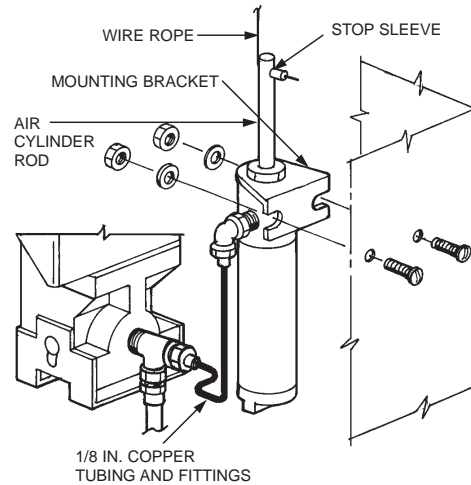

FIGURE 34
4. Locate air cylinder and bracket assembly over the two 7/32 in. (5.6 mm) holes on right side of the enclosure. Assemble with screws, lockwashers, and nuts. Wrench tighten. See Figure 34. Air cylinder(s) can also be mounted in the inverted position, allowing for direct exit out the knockout(s) in the bottom of the enclosure. See Figure 35.
6. Install the necessary 1/8 in. copper tubing and fittings for each air cylinder to the accessories piping arrangement on the regulated release mechanism. See Figures 34 and 35.
9. Beginning at the regulated release assembly, thread the end of the wire rope through hole provided in air cylinder rod. See Figure 34.
12. With the end of wire rope already threaded through hole in air cylinder rod, slide stop sleeve (Part No. 26317) onto wire rope and leave loose. Do not crimp stop sleeve at this time. See Figure 34.
14. Raise air cylinder rod "UP" to its maximum extended position. See Figure 34.